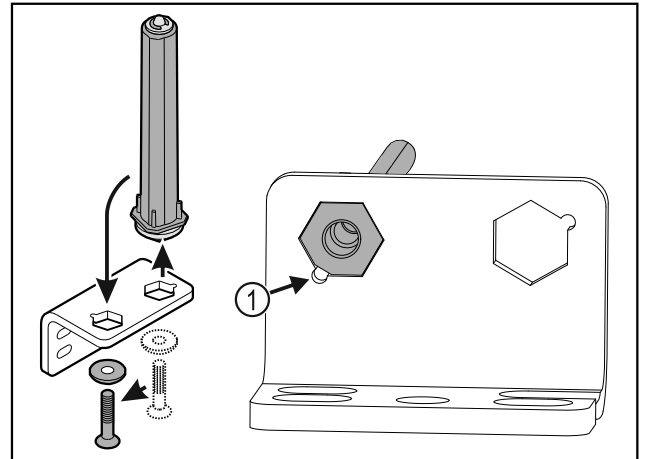

Fig. 19
- ▶ Make sure the pin chamfer Fig. 19 (1) faces the round hole when you put it in.